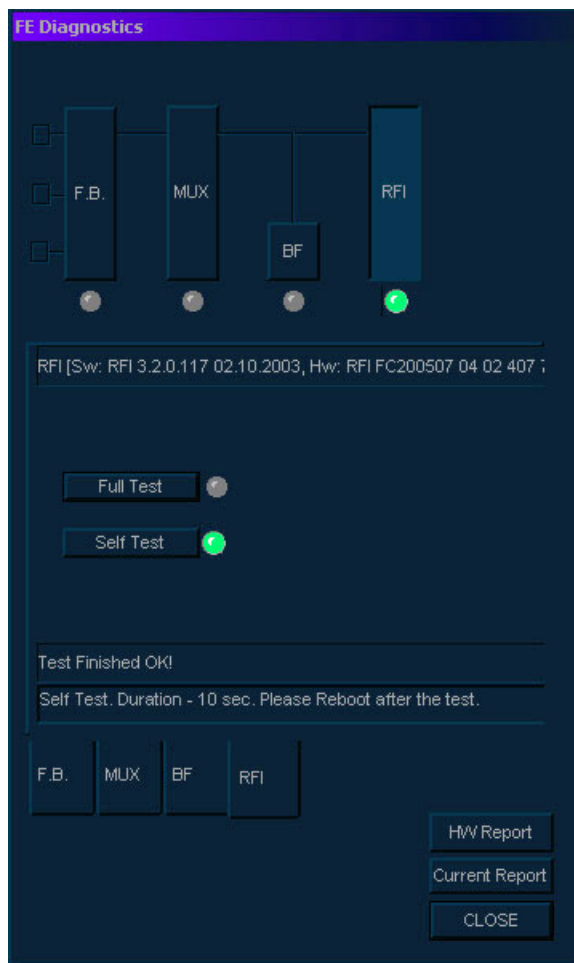

Figure 7-6 RFI Tab - Self Test Complete
- If no problems were identified, proceed to re-boot the system, as prompted (Figure 7-6, above).